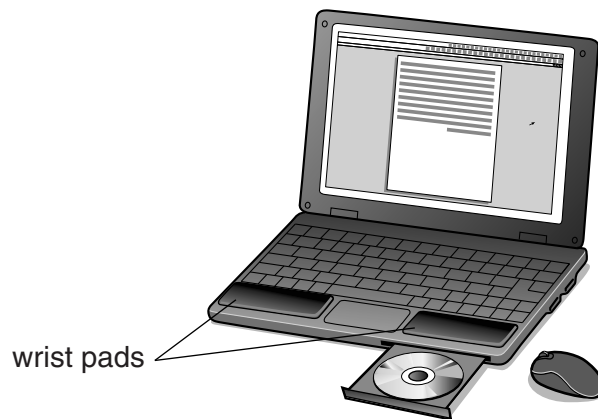

Fig. 2
17 Fig. 2 shows a portable laptop computer.
- (a) The laptop in Fig. 2 has a rechargeable battery. Give **two** reasons why this is better for the environment than using disposable batteries.
- (b) Explain what is meant by the term 'product analysis' with reference to the laptop shown in Fig. 2.
- (c) With reference to the laptop in Fig. 2, describe **three** features where the designer has considered ergonomics.
- (d) The outside casing of the laptop in Fig. 2 is injection moulded from polypropylene.